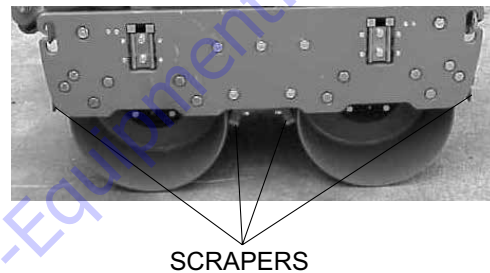

Figure 10. Checking Scrapers
1. Check scrapers and make sure that they are not clogged with mud, bent or damaged (Figure 10).